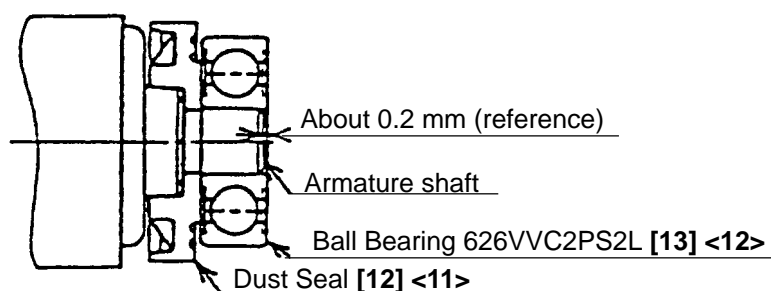

Fig. 1
- (1) Ensure that the terminals of the stator are not bent or otherwise damaged.
- (2) Generously lubricate the teeth of the gear and the pinion with grease. Rub grease onto the teeth with your fingers so that the grease reaches each tooth bottom. Note that the gear and the pinion may wear faster than normal if under-lubricated.
- (3) Be sure to soak the inner diameter of the Felt Packing [21] <20> with machine oil. Otherwise, its dust-sealing function will fail to work properly, resulting in earlier damage of the Ball Bearing 6201VVCMP2L [20] <19>.
- (4) When replacing the Armature [8] <7> and the Ball Bearing 626VVC2PS2L [13] <12> on the commutator side, press inward on the Dust Seal [12] <11> while taking care of its direction until the end face of the Dust Seal [12] <11> contacts against the end surface of the Armature [8] <7> and make sure that Dust Seal [12] <11> cannot be turned freely by hand. Keep the end face of the armature shaft approximately 0.2 mm (reference) distance inward of the end face of the Ball Bearing 626VVC2PS2L [13] <12> (see Fig. 1).